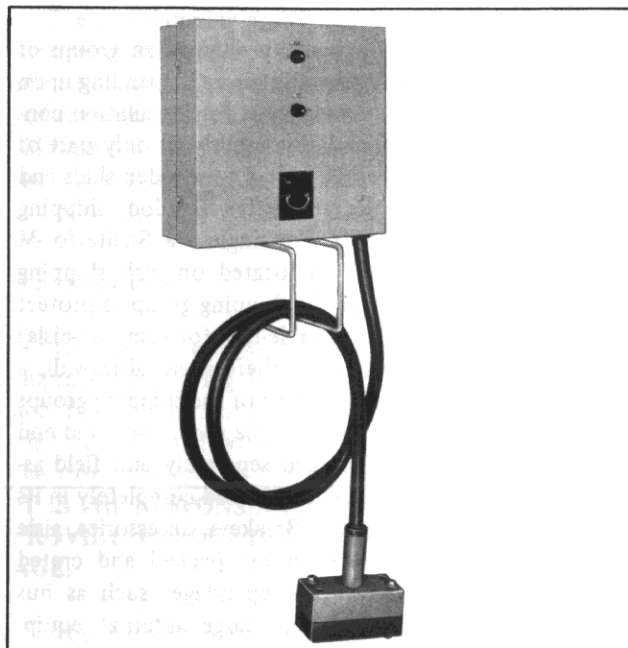

Fig. 41 Test Cabinet (376456)
1.32.1 A TEST CABINET (Fig. 41) for electrically operating the breaker when it is out of its housing. The cabinet includes control power connections, a cutoff switch, necessary control equipment, and a cable which has one end connected to terminals in the test cabinet. The other end of the cable is a socket that connects into the secondary disconnect contacts on the breaker itself.